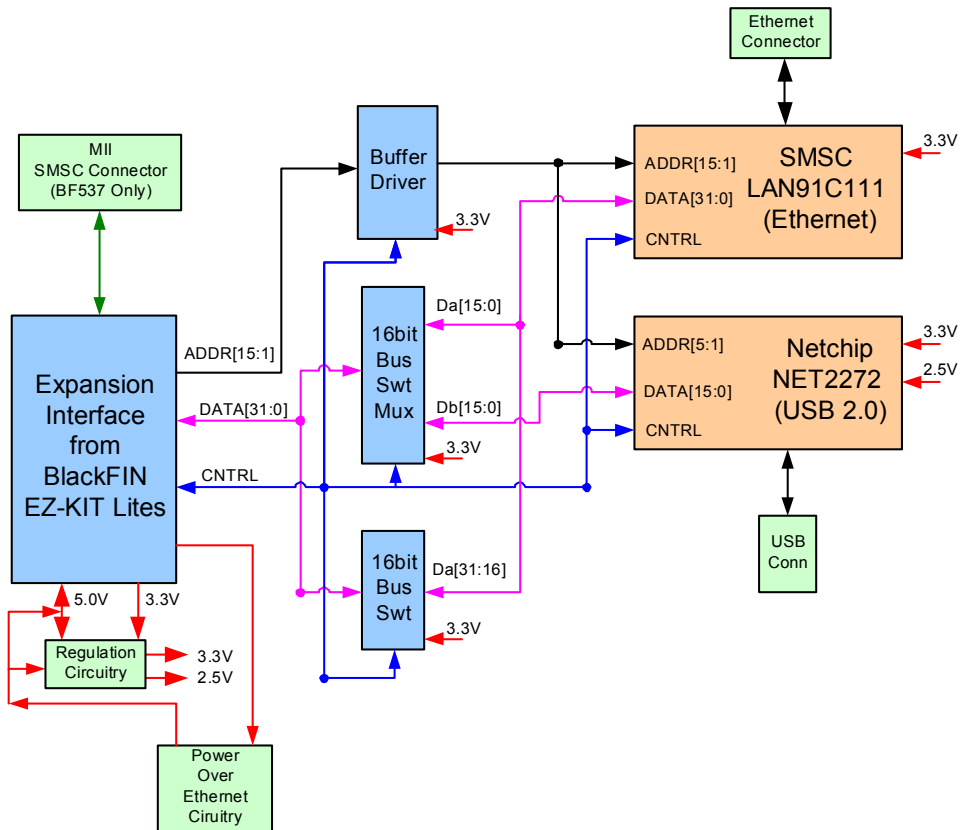

Figure 2-1. Block Diagram
4. Set the switches and jumpers on the USB-LAN EZ-Extender board. Use the block diagram in Figure 2-1 on page 2-2 in conjunction with “Jumper Settings” on page 2-3 and “Switch Settings” on page 2-6.
A block diagram of the Blackfin USB-LAN EZ-Extender is shown in Figure 2-1.